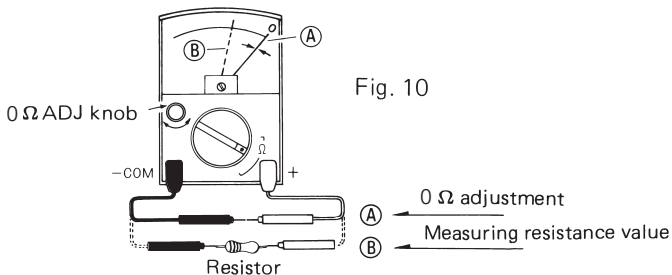

Fig. 10
$0\ \Omega$  adjustment, in other words, fullscale adjustment must be done prior to using the tester. Short + and -COM terminals together as shown in Fig. 10 (A), turn the zero ohm adjuster ( $0\ \Omega$  ADJ) knob, and align the indicator pointer to the rightmost  $0\ \Omega$  line of the  $\Omega$  scale. After this adjustment is finished, proceed to measurement. If this adjustment is done whenever the range is switched, more accurate indicated value can be obtained.